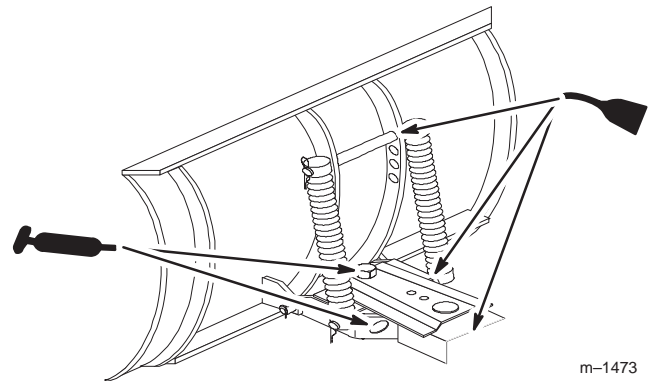

Figure 18
3. Clean the area around the channel pivot with a rag. Apply grease to the pivot bolt, frame and sector (Fig. 18).
2. Place a few drops of oil on all movable linkages (Fig. 18).